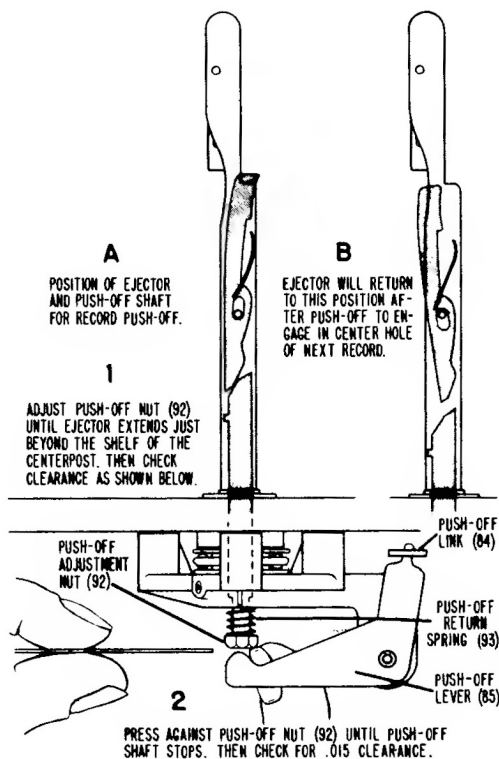

Figure 9. Adjusting for Correct Push-Off.
When the tone arm is clear of the turntable, the roller on the drive eccentric (82) engages the push-off link (84). The push-off link moves the push-off lever (85) which engages the push-off adjustment nut (92) on the end of the push-off shaft in the centerpost. As the push-off link is moved by the drive eccentric, the push-off lever moves the push-off shaft up into the centerpost. The push-off shaft engages the ejector and pushes it up and out at the shelf of the centerpost. See figure 9.
Ejector travel is adjusted by the hexagonal adjustment nut (92). With proper push-off adjustment, the ejector should extend just slightly beyond the edge of the shelf on the centerpost. See figure 9.
2. Continue rotating turntable slowly until the roller on the drive eccentric (82) engages the push-off link (84). Rotate turntable until the roller has moved the link its full distance. The push-off lever (85) is now extended its maximum travel.
3. Check the position of the ejector at the shelf of the centerpost. The ejector should extend **just beyond** the edge of the shelf. See figure 9. If the ejector does not extend beyond the edge of the shelf, turn the push-off adjustment nut (92) counterclockwise to increase the amount of push-off. Use a $\frac{1}{4}$ " open-end wrench for this adjustment.
2. Check for weak push-off return spring (93).
3. Check the push-off adjustment. See figure 9.